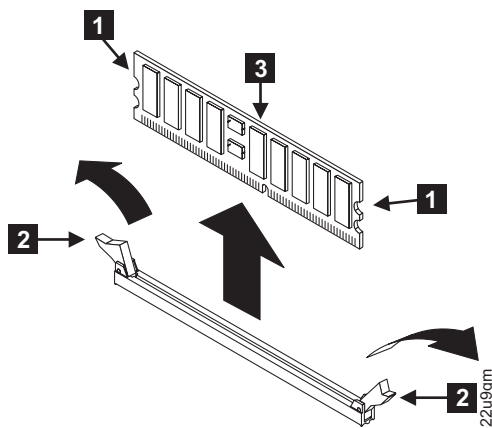

Figure 113. Removing the memory modules
4. Open the clips **2** by pressing them outward. This action pulls the memory module **3** out of the connector. See Figure 113.